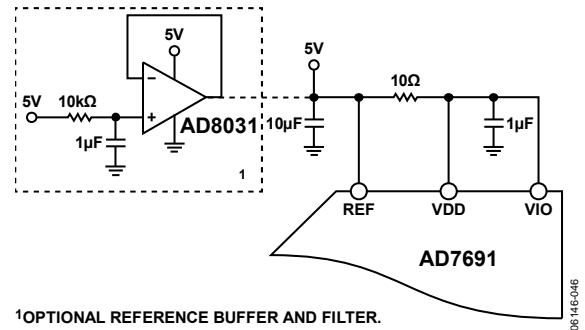

Figure 34. Example of an Application Circuit
For simplified applications, the AD7691, with its low operating current, can be supplied directly using the reference circuit shown in Figure 34. The reference line can be driven by
- A reference buffer, such as the AD8031, which can also filter the system power supply, as shown in Figure 34.